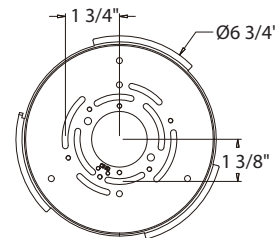

Fig. 3 4CCT Switch
7. The lamp can switch between four color temperatures (3000K-3500K-4000K-5000K), which can be adjusted to your preference with the 4CCT switch in the canopy (Fig.3).